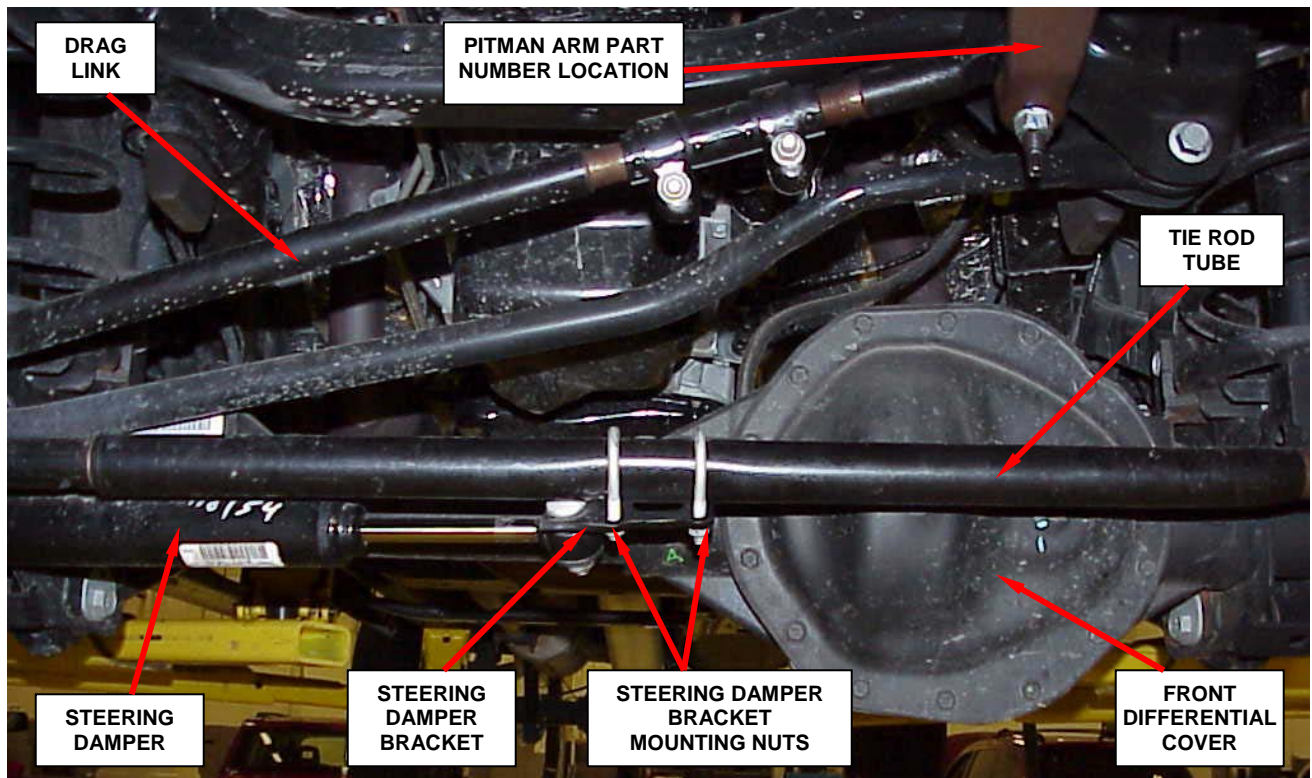

Figure 4 – Damper Bracket Inspection
3. Inspect the steering damper bracket to tie rod tube mounting u-bolt nuts by putting a 13 mm box-end wrench onto the nut (Figure 4):